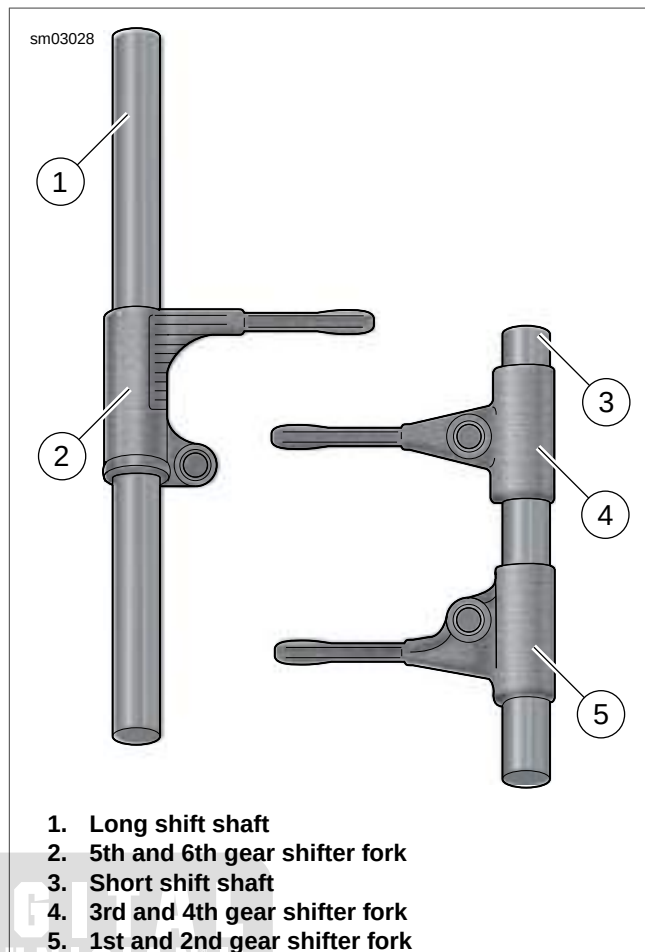

Figure 6-31. Shifter Forks and Shafts
9. See Figure 6-31. The forks are different from each other and are identified as shown.